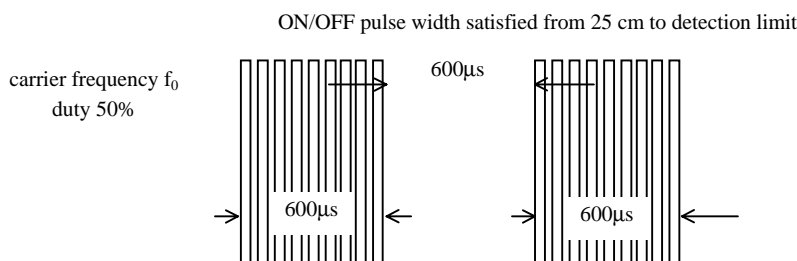

Fig 1. Burst Wave
- (1) Measuring placeIndoor without extreme reflection of light.
- (2) Ambient light source... Detecting surface illumination shall be 200 ± 50 Lux under ordinary hite fluorescence lamp of no high frequency lighting.
- (3) Standard transmitter ... Burst wave indicated in Fig 1. of standard transmitter shall be arranged to 50mVp-p under the measuring circuit specified in Fig 2.